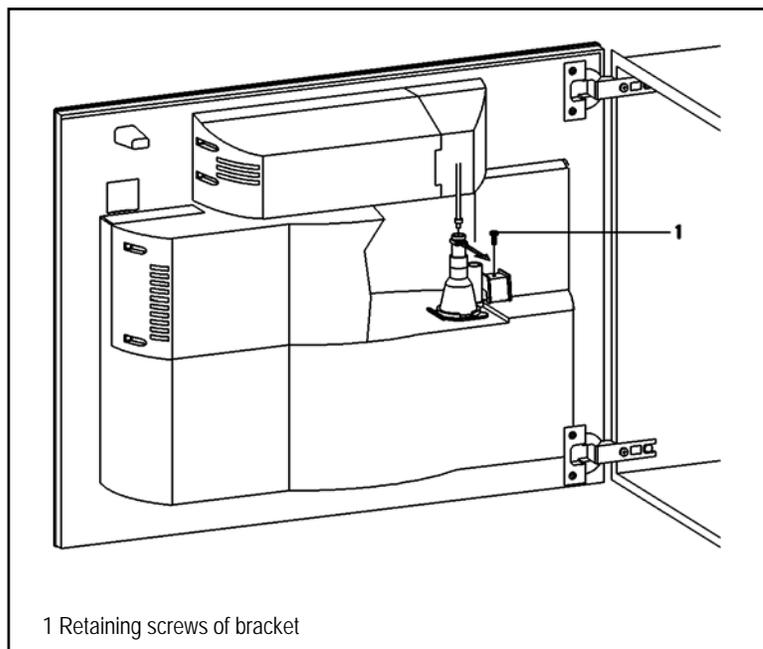

Figure 5-9: CVA4070 Cappuccinatore Retaining Screw Removal
5. Remove the screws of the bracket (Figure 5-9, Item1).